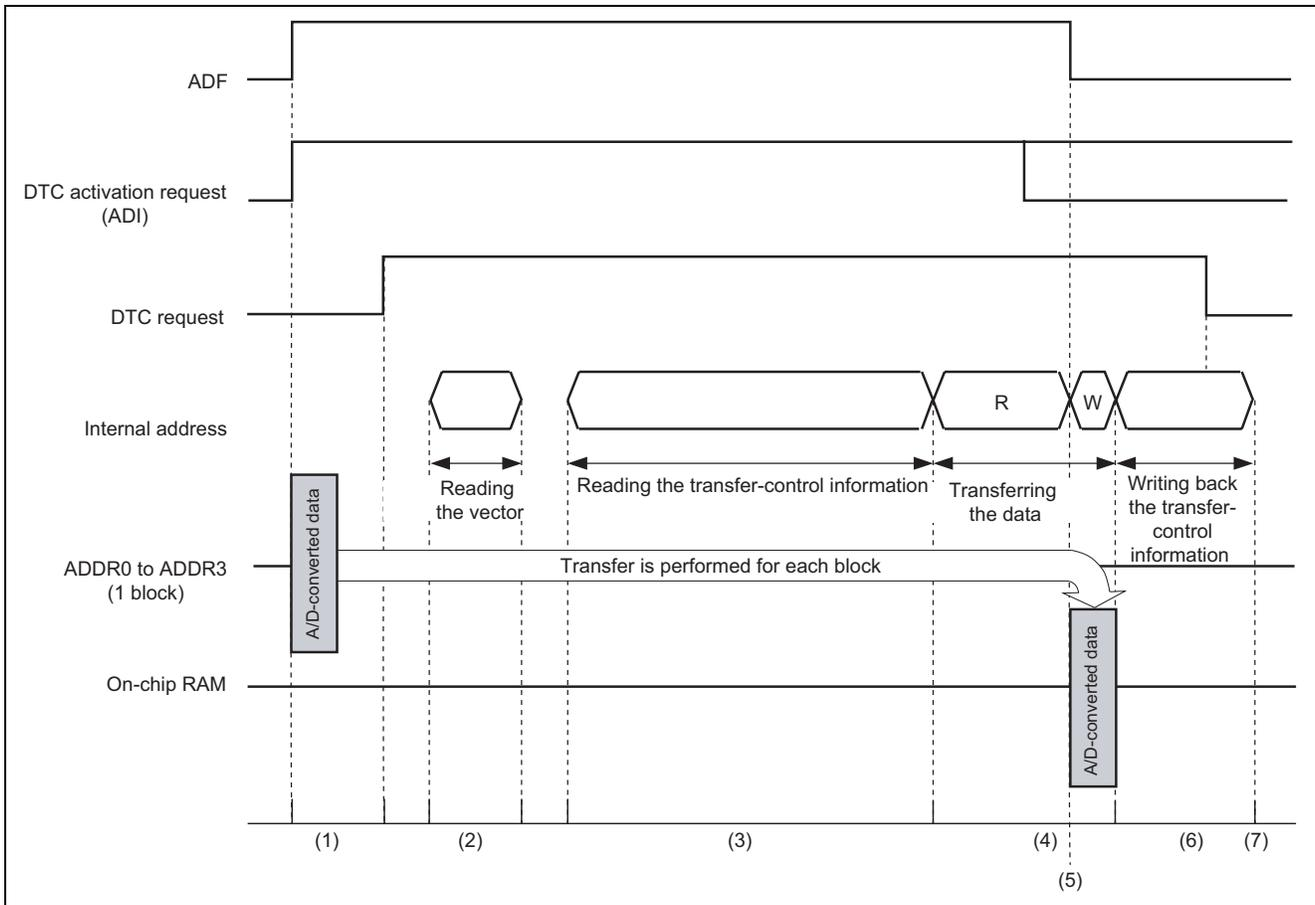
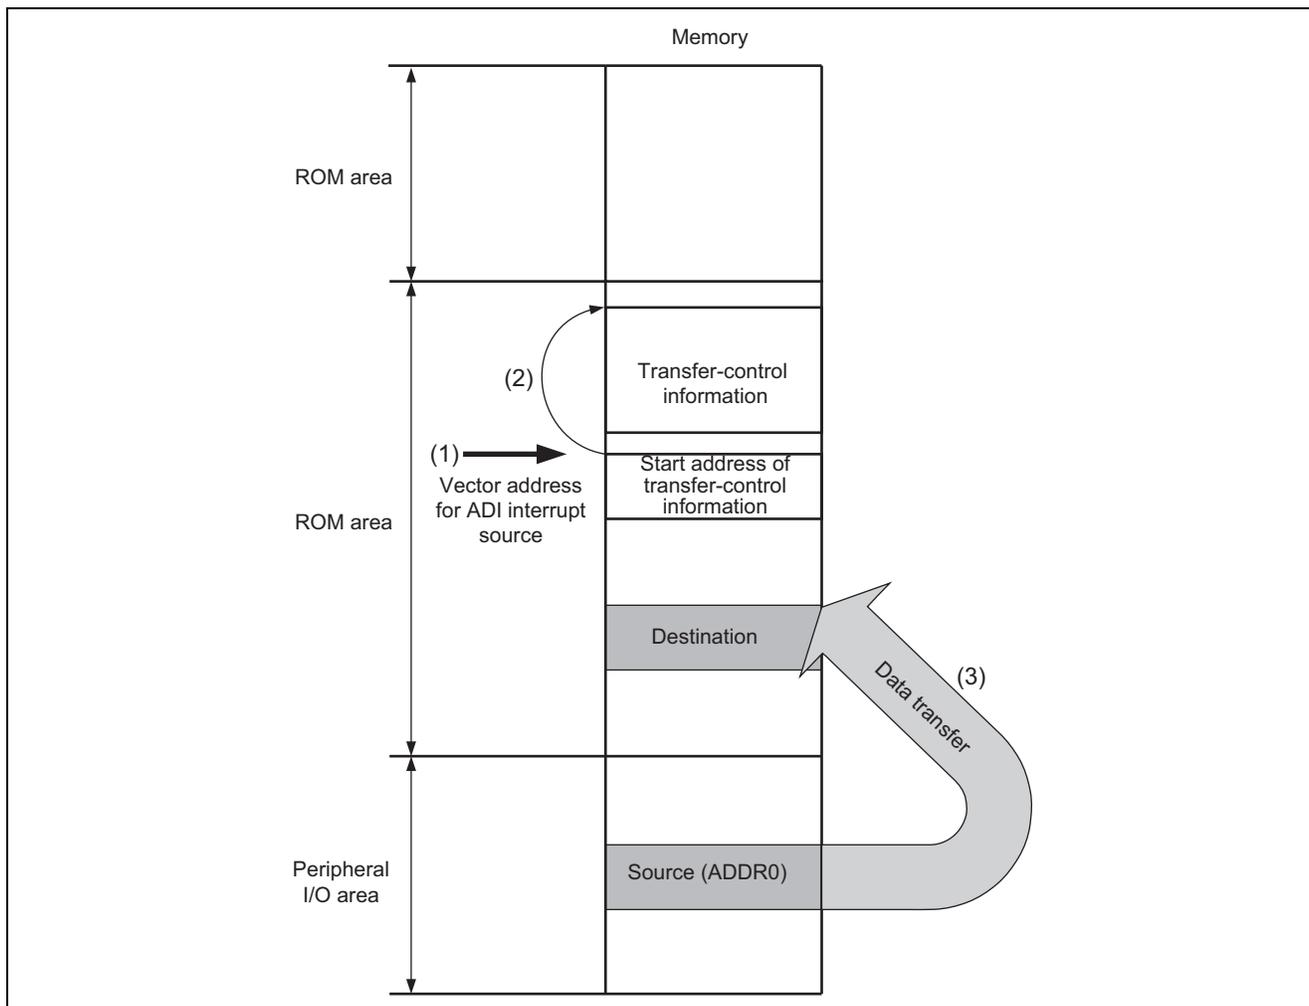

Figure 5 Detailed Timing Chart of DTC Transfer
Figure 6 Flow of Data in Memory
A more detailed timing diagram of one DTC transfer operations is given as figure 5.
In DTC transfer, DTC activation sources (in this case, ADI interrupt requests) generates DTC request. Mastership of the internal bus is secured and the DTC is activated (figure 5 (1)). The address where the control information for the transfer starts is read from the vector table of ADI activation sources (figure 5 (2)) that has been set up for this example. The information is then read, starting at the given address (figure 5 (3)). After that, a single block of data (ADDR0 to ADDR3) is transferred from the source address (ADDR0) to the destination address (on-chip RAM) (figure 5 (4)). The ADF bit is automatically cleared in response to reading of the ADDR (figure 5 (5)).
Finally, the destination address for the transfer is incremented, and the control information for the transfer is written back (figure 5 (6)). The DTC releases the bus after the writeback operation (figure 5 (7)).
The flow of data in memory for the operations shown in steps (2) to (4) of figure 5 is illustrated in figure 6 and described in table 4.
Table 4 Description of Figure 6